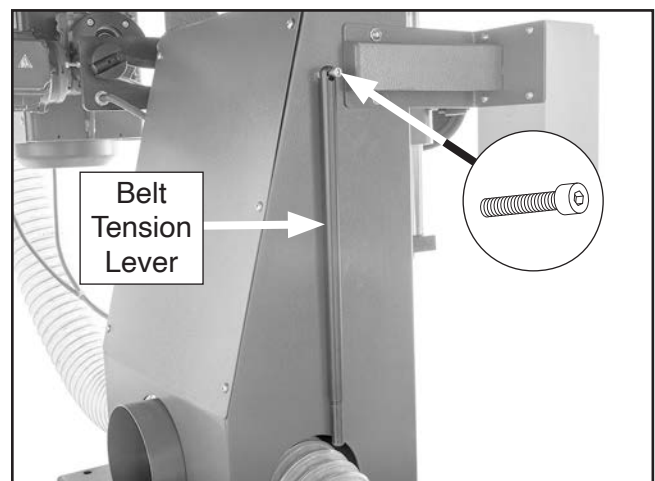

Figure 20. Belt tension lever hanging on stand screw for storage.
6. Remove belt tension lever from cap screw shown in **Figure 20**.
Note: Belt tension lever is stored on screw shown in **Figure 20** for shipping. Store lever in this location when not in use.